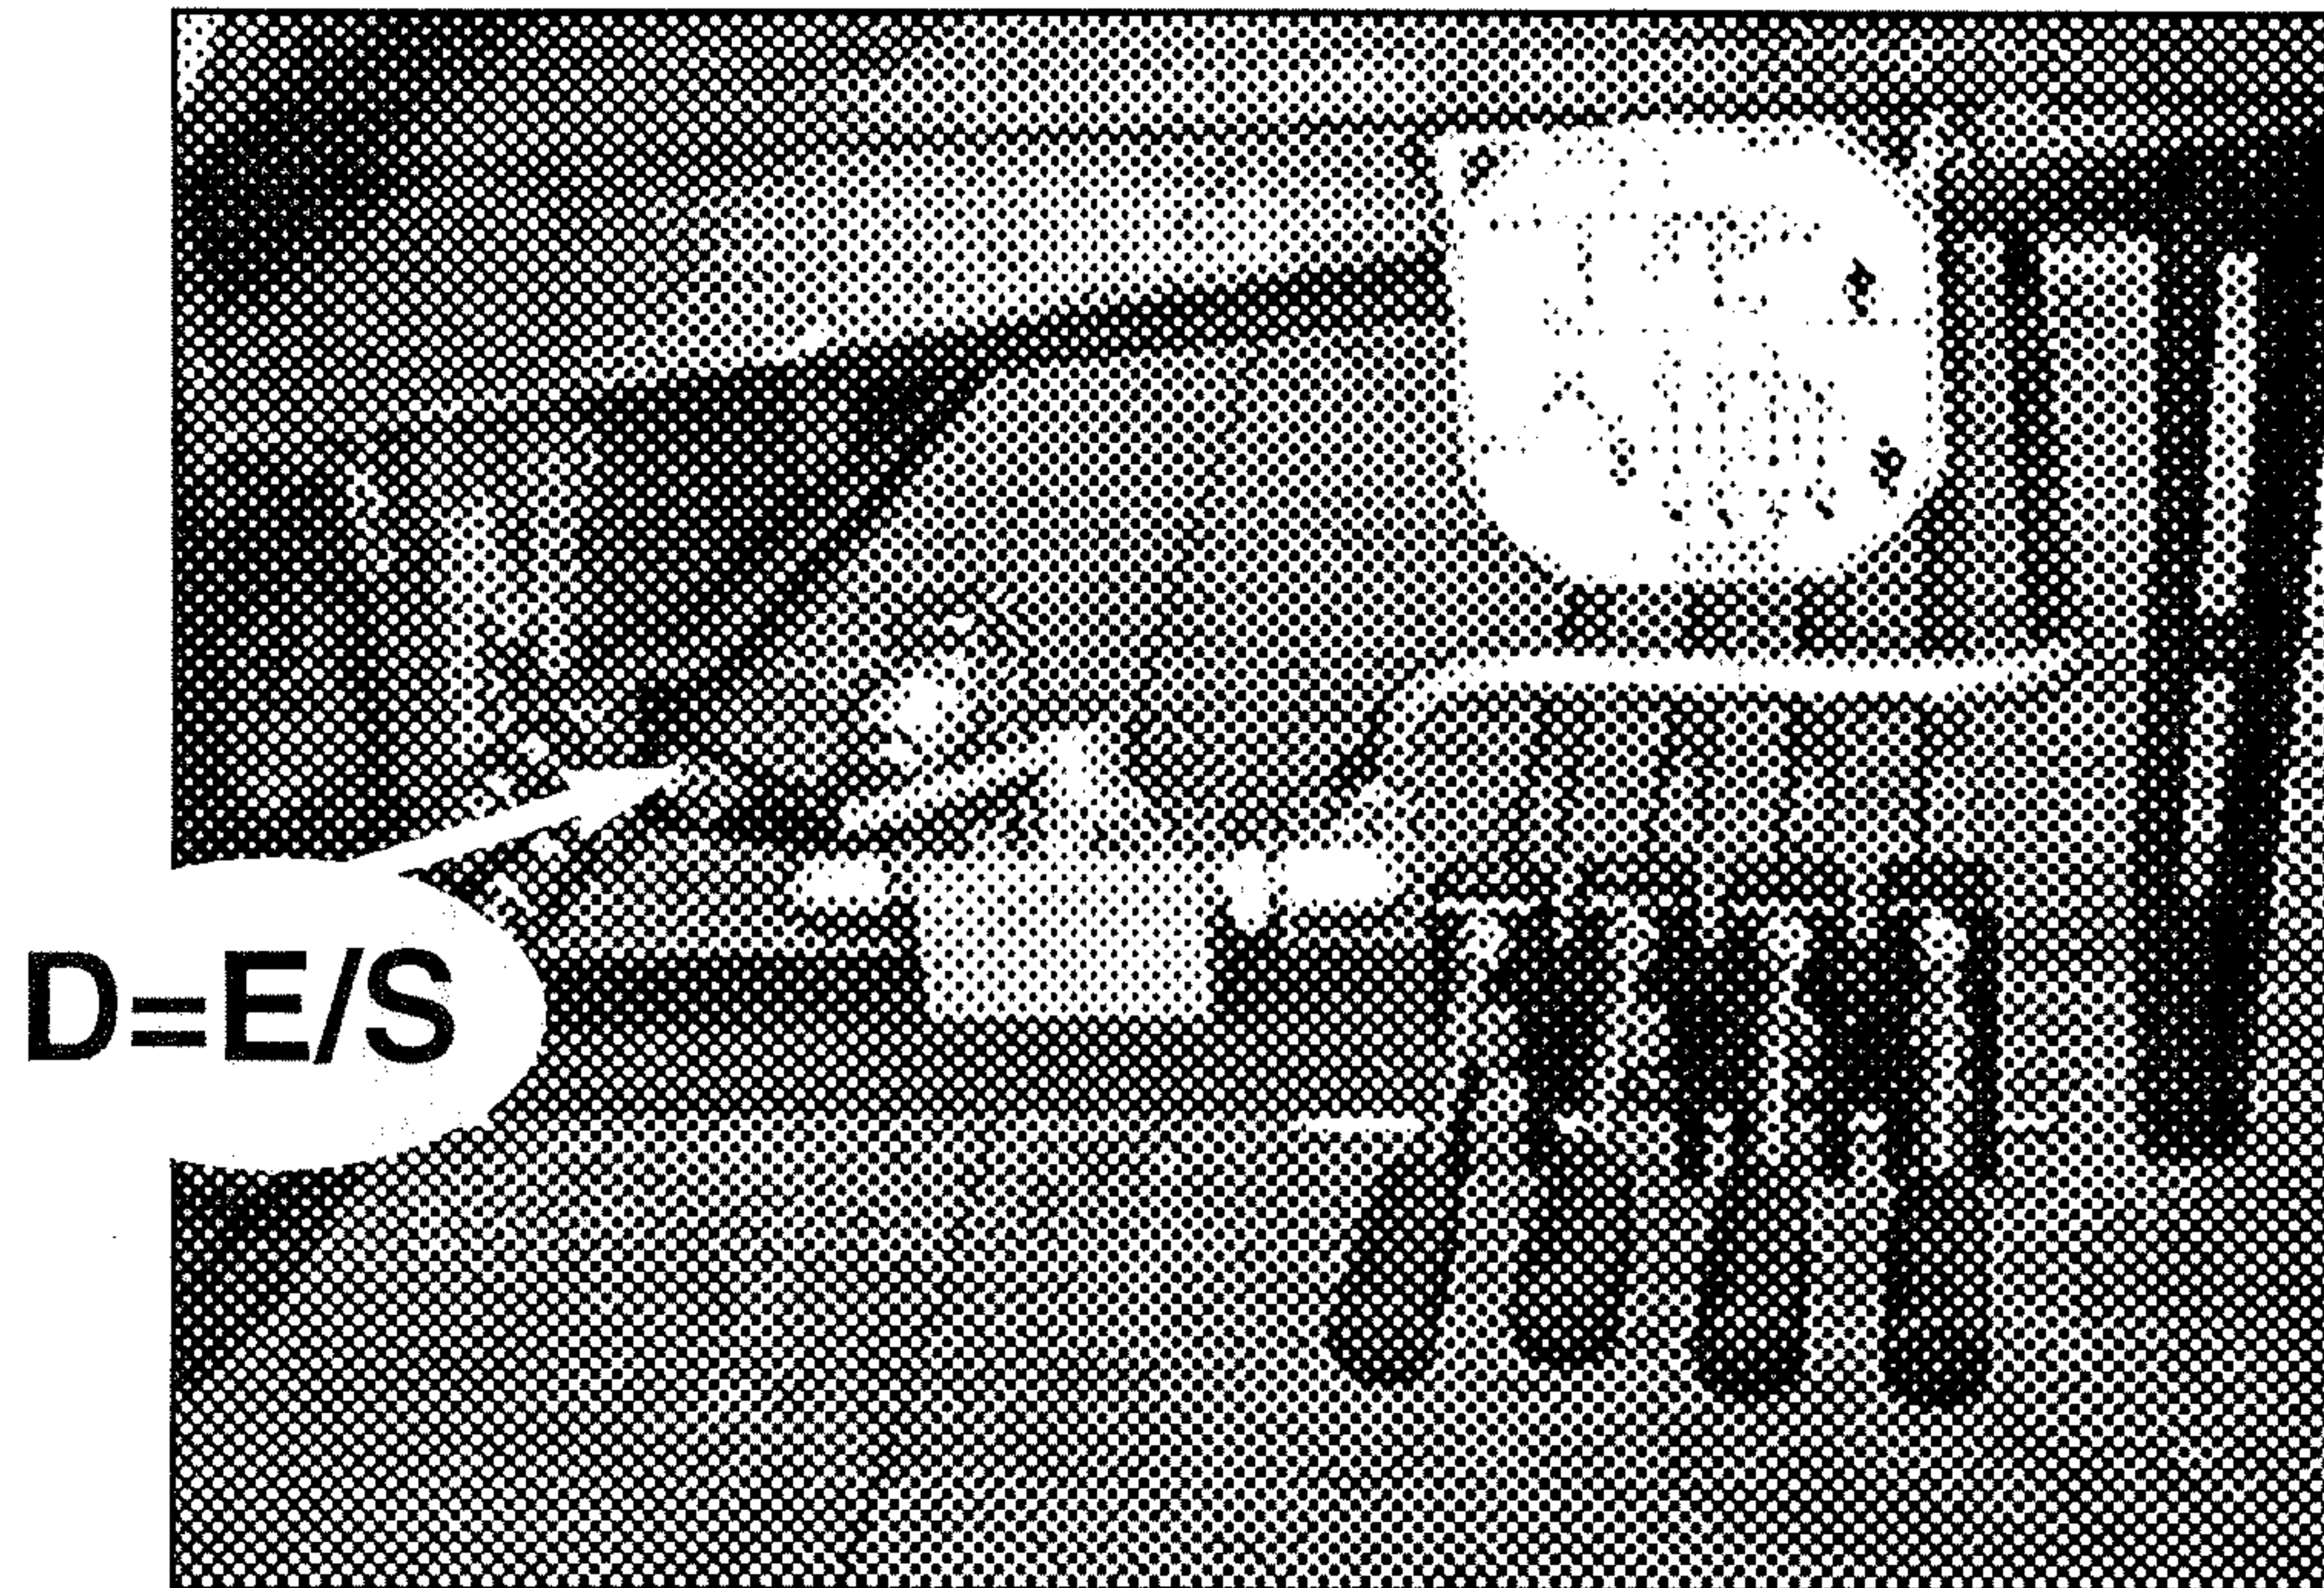

fig. 9
- Position the lever of oil diverter  - **E/S**, on **E/S** (extensions - outriggers). Fig. 9